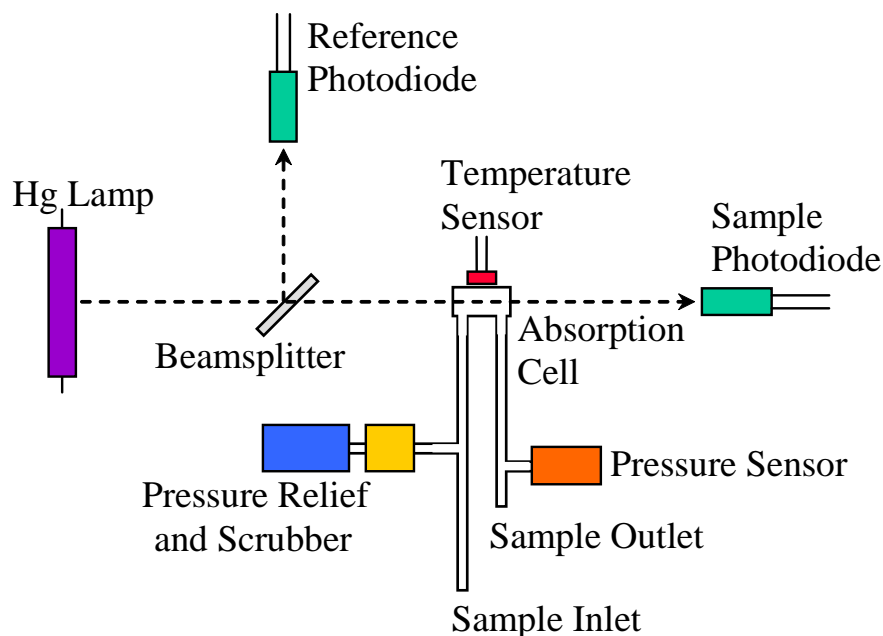

Figure 1. Schematic Diagram of the Ozone Monitor.
Figure 1 is a schematic diagram of the Ozone Monitor. Ozone is measured based on the attenuation of light passing through a 0.1 cm absorption cell fitted with sapphire windows. A low-pressure mercury lamp is located on one side of the absorption cell, and a sample photodiode is located on the opposite side of the absorption cell. The photodiode has a built-in interference filter centered on 254 nm, the principal wavelength of light emitted by the mercury lamp. A beamsplitter and reference photodiode are used to monitor the lamp intensity without the sample in the beam path. The intensity of light is measured from the reference photodiode (I_0) and from the sample photodiode (I).